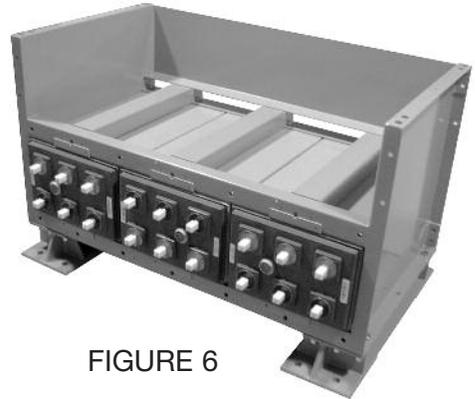

FIGURE 6
- Place another cell module onto the shelf next to the previously placed cell module. Refer to the Assembly Drawing for the cell polarity configuration. See Figure 6.